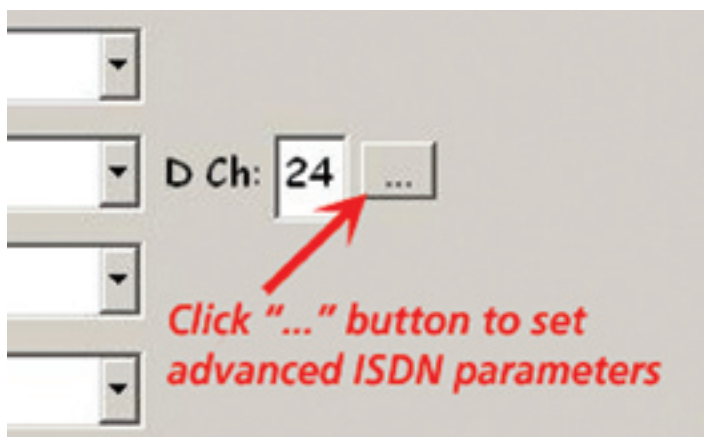

Figure 127
2. Located to the right of the channel number text box is a small button with three dots (see close-up figure 127).